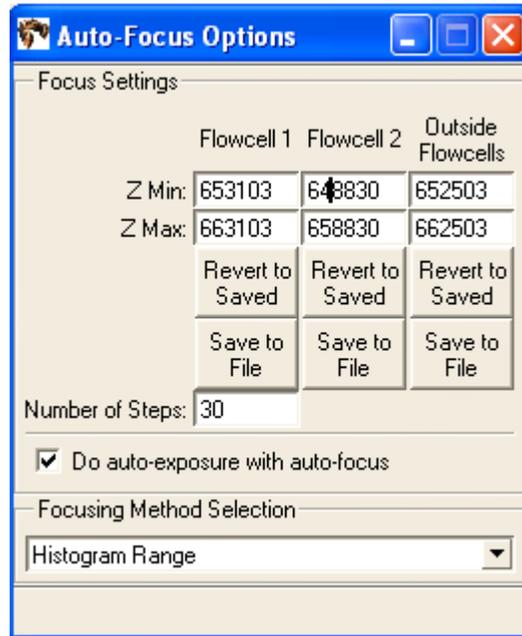

Figure 79 Enter auto-focus options.
3. Ensure that **Do auto-exposure with auto-focus** is checked. Enter a value 5000 *less than* the nominal Z distance for Z Min. Enter a value 5000 *greater than* the nominal Z distance for Z Max. Enter **30** for the Number of Steps and choose **Histogram Range** from the drop-down menu in the Focusing Method Selection pane (see Figure 79 on page 115).